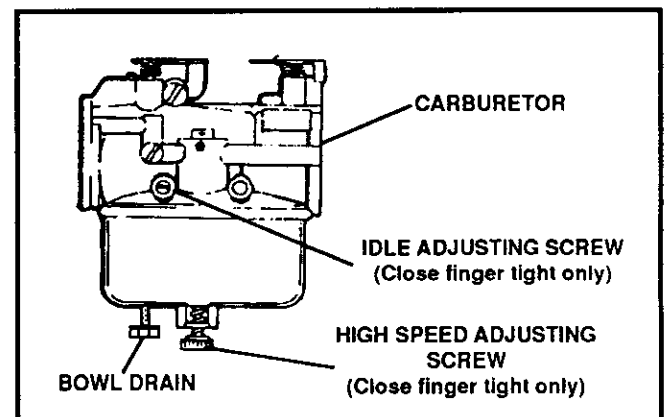
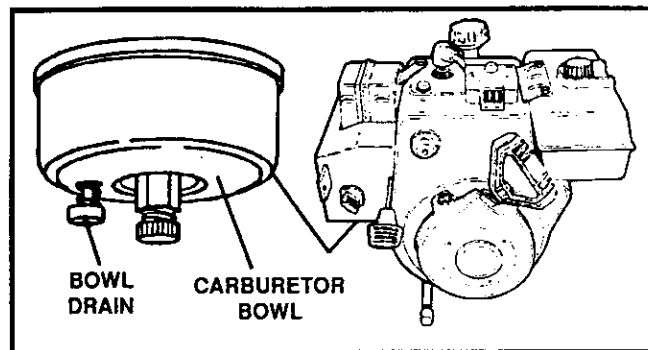

FIG. 17
FIG. 1
The carburetor (See FIG. 17 and (FIG. 1 Storage) has been pre-set at the factory and readjustment should not be necessary. However, if the carburetor does need to be adjusted, proceed as follows:
- To remove gasoline, run the engine until the tank is empty and the engine stops. Then drain remaining gasoline from carburetor by pressing upward on bowl drain located on the bottom of carburetor (See FIG. 1).